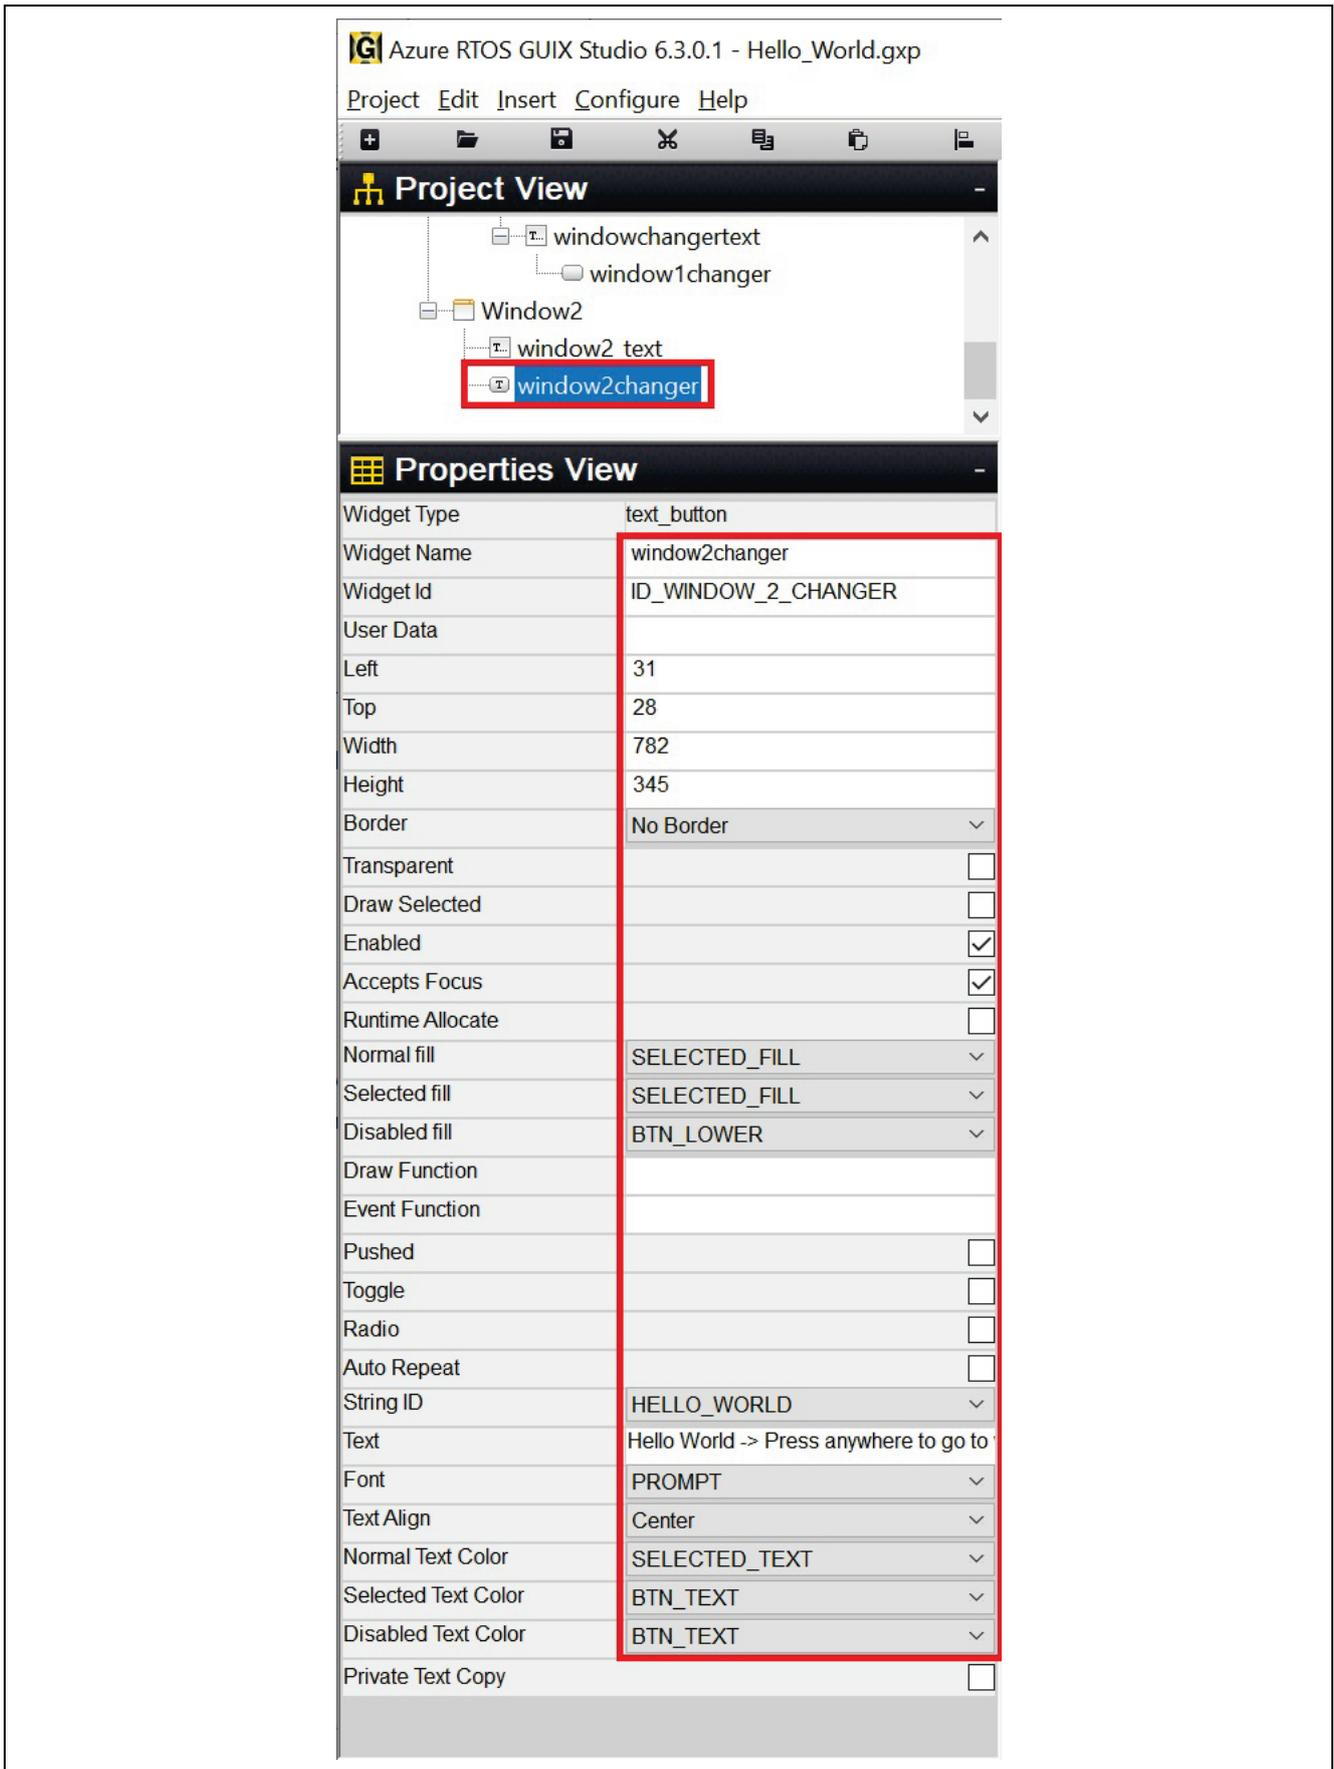

Figure 68. Setting Properties of text_button
28. Set the **Properties View** of **text_button** as shown in **Figure 68**.